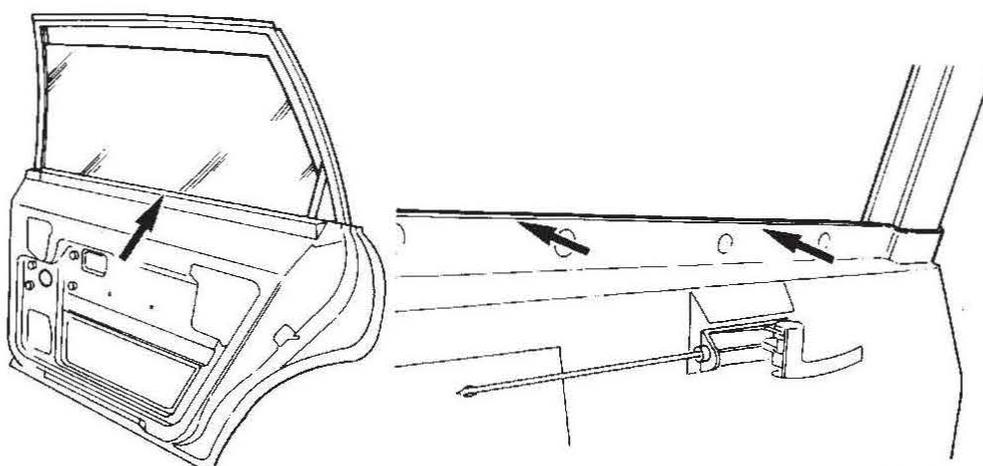

FIG.3
- 2 With the door glass fully open, remove the top roll door casing to expose the inner door 'letterbox' top flange (Fig 3).
- 3 Dress the flange inboard by the amount required to close the gap, and form an air tight seal between the window glass and the top roll waist seal (Fig 3).